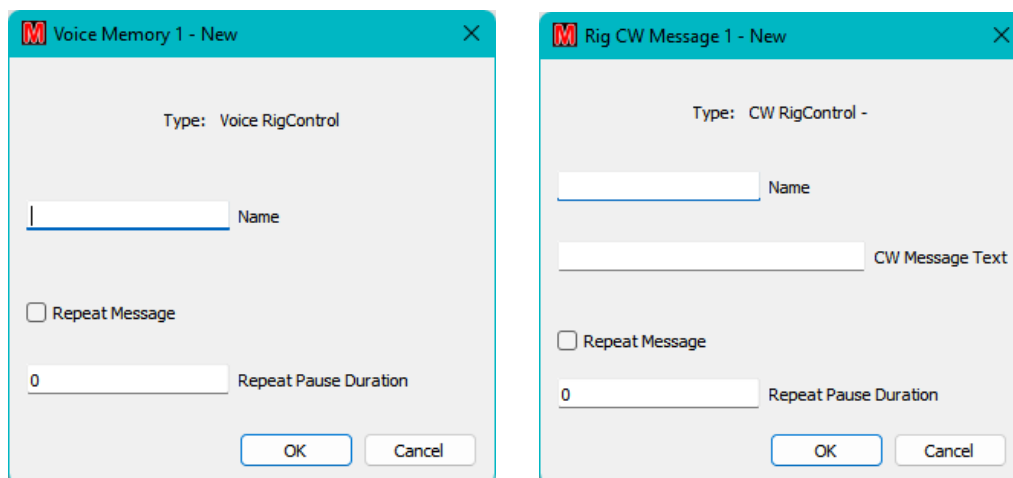

Figure 135 – Setup for RigControl connection buttons
- **New:** Create a new user command (see Figure 135).